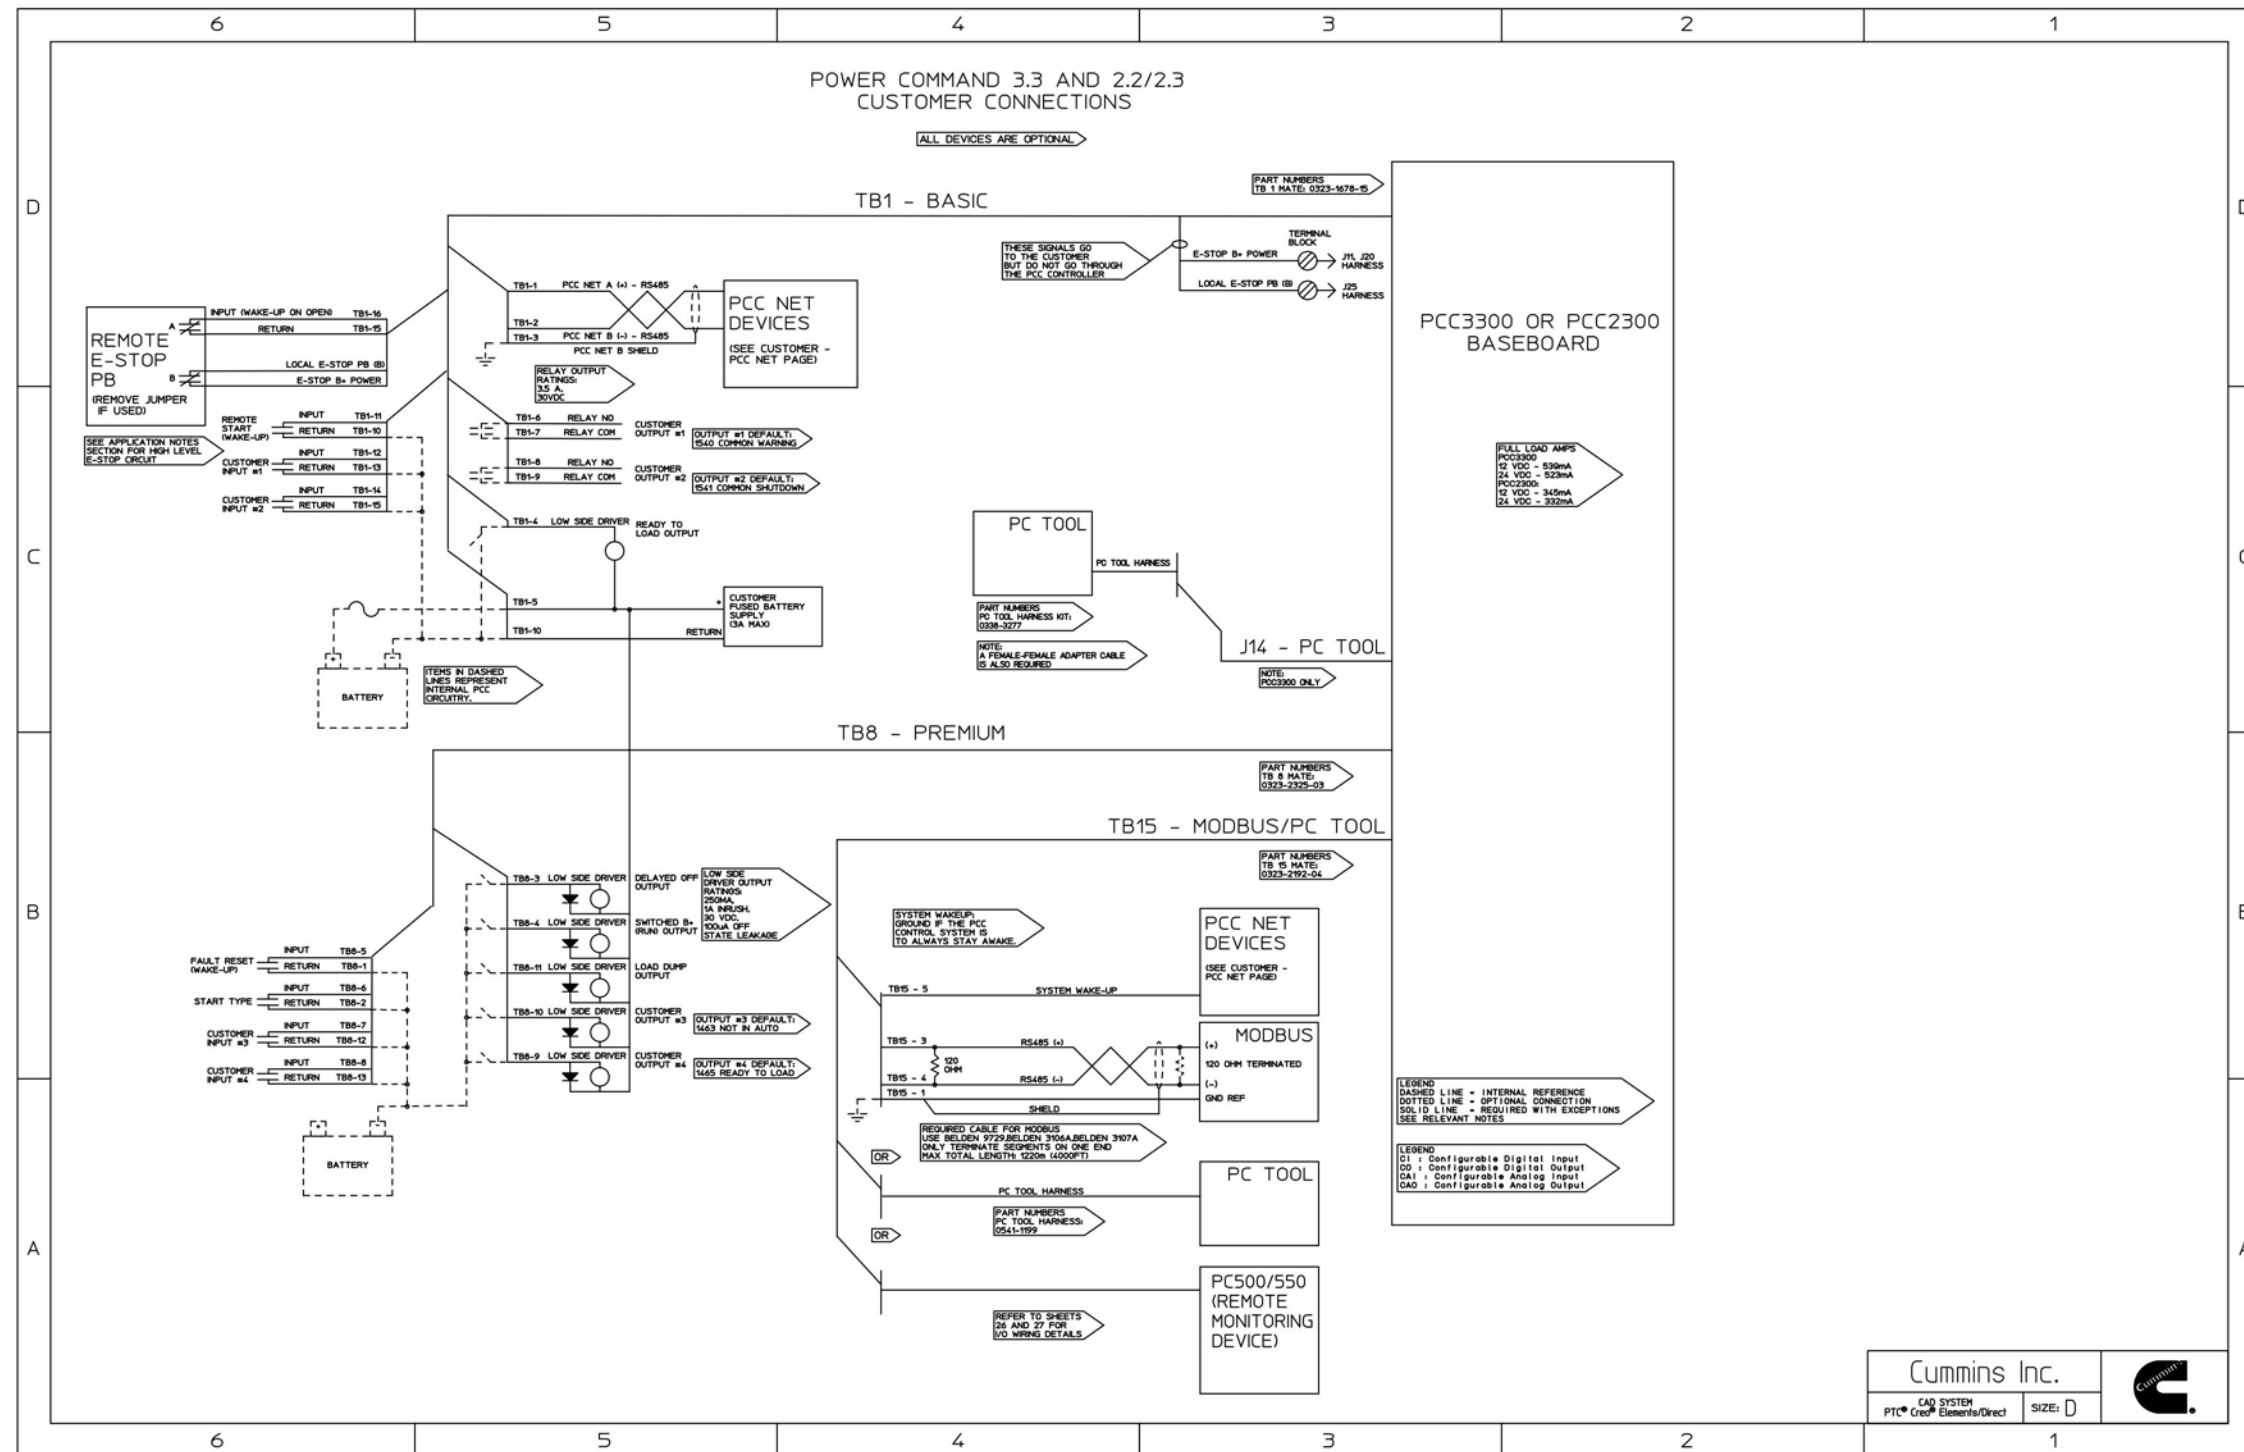

FIGURE 51. CUSTOMER CONNECTIONS
- Figure 51. Customer Connections 114